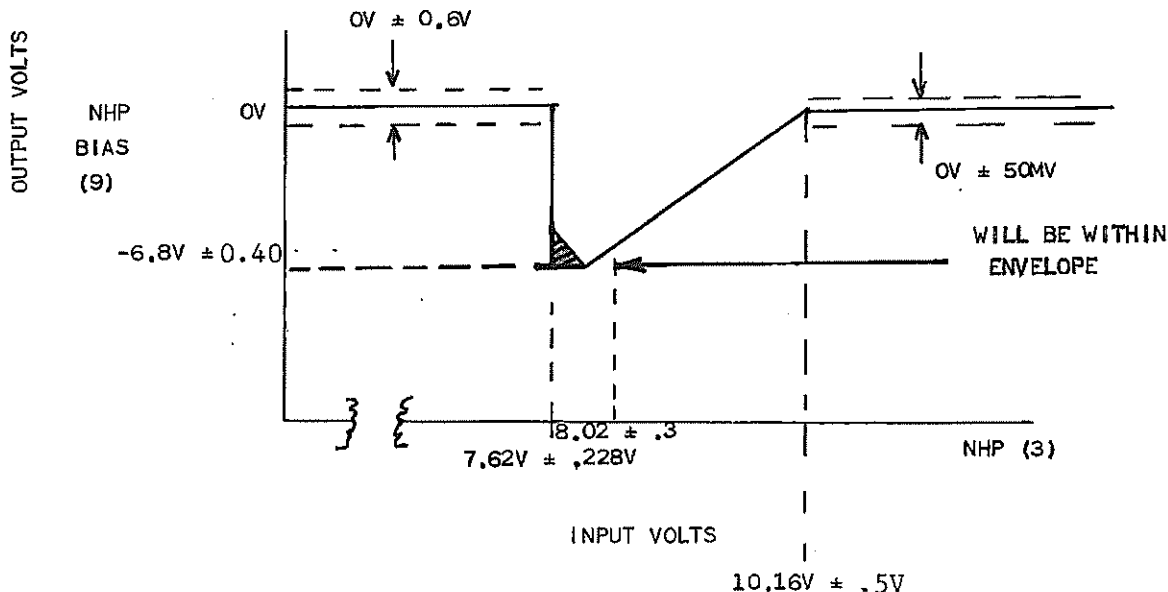

FIG 2
E - NOTE THAT THE FUNCTION OF FIG 2 IS GENERATED.
(VARY THE VOLTAGE ON NHP (3) AND VERIFY THE CORRESPONDING OUTPUT AT BIAS (9) PER FIG. 2. NOTE: FIG. 2 IS NOT A WAVEFORM.)